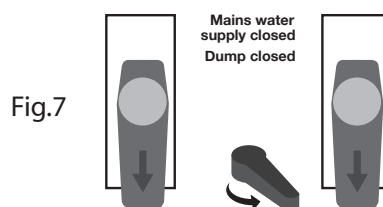

Fig.7
- 3) Set the valves as per Figure 7.